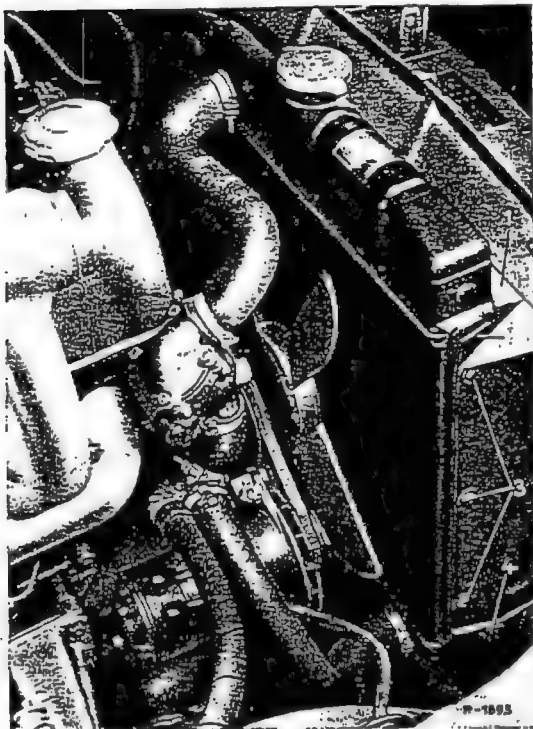

Fig. 50-1/3
3. Unfasten the cooling water hose clamps at the top and at the bottom of the radiator and on Model 230 SL also detach the bleeder hose (5). Remove the water hoses from the pipe unions of the radiator (Figs. 50-1/2 to 5).
4. On cars with automatic DB transmission unscrew any hose connections from the transmission oil cooler (Fig. 50-1/6). Plug the pipe unions on the radiator and hose lines against dust.